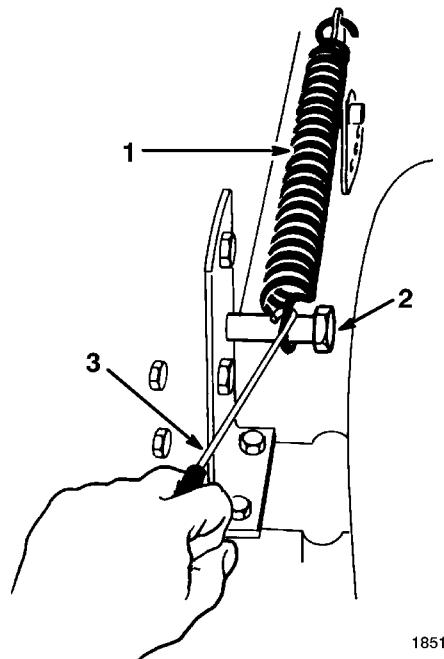

Figure 39
4. Remove the height-of-cut lift assist spring from the retaining bolt (Fig. 39), using the spring tool provided with the machine. The spring is between the frame and the right rear wheel.
- Move the height-of-cut lever (deck lift) into the "D" notch. Hook lift assist spring onto retaining bolt for storage (Fig. 39).
15. Hook the height-of-cut lift assist spring onto the retaining bolt (Fig. 39), using the spring tool provided with the machine.